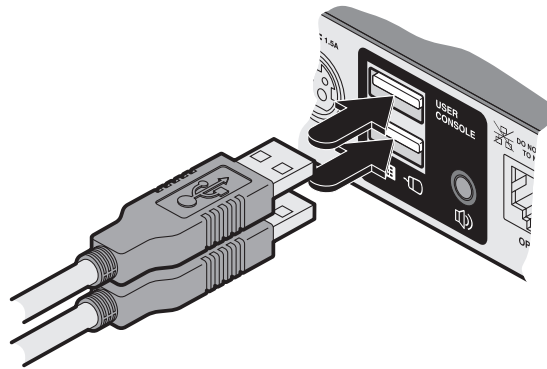

Figure 3-1. Connecting the keyboard/mouse to the user console.
2. Keyboard and mouse: Attach the leads from your USB keyboard and mouse to the USB sockets specifically labeled with keyboard and mouse symbols. The keyboard and mouse will operate in any of the USB sockets, however, True Emulation is not available on sockets labeled USB1 or USB2. See Figure 3-1.